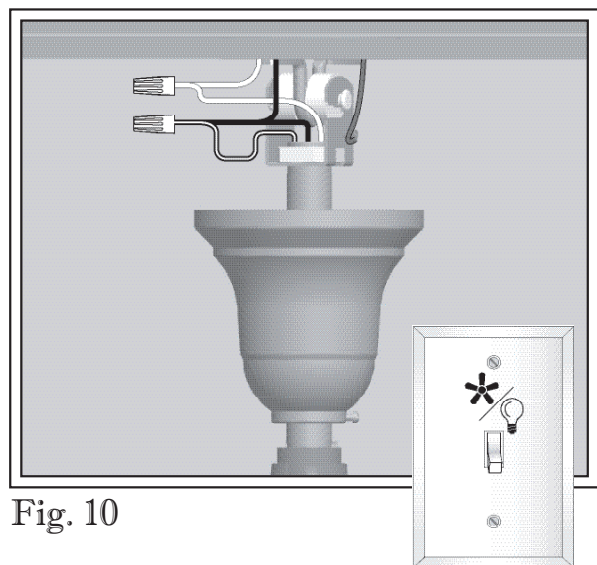

Fig. 10
**Single Switch Wiring (see Fig. 10):**